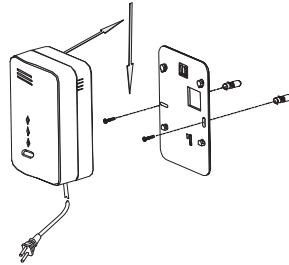

Fig. 2
3. Using a 3/16-inch (5 mm) drill bit, drill two holes at the marks and insert wall plugs (Fig. 2).
5. Line up the side slot of the bracket and the detector. Push the detector onto the mounting bracket and fix it (see arrow direction, Fig. 2). Pull the detector outwards to make sure that it is securely attached to the mounting bracket.